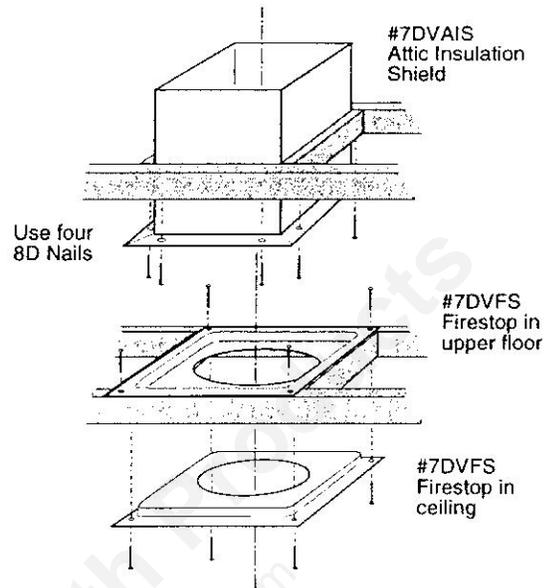

Figure 3-16. Install firestops and attic insulation shield.
8. Install Firestop(s) #7DVFS and Attic Insulation Shield #7DVAIS as appropriate. Fig. 3-16. If there is a room above ceiling level, a firestop must be installed on both the bottom and top sides of the ceiling joists. If an attic is above ceiling level, an Attic Insulation Shield must be installed.